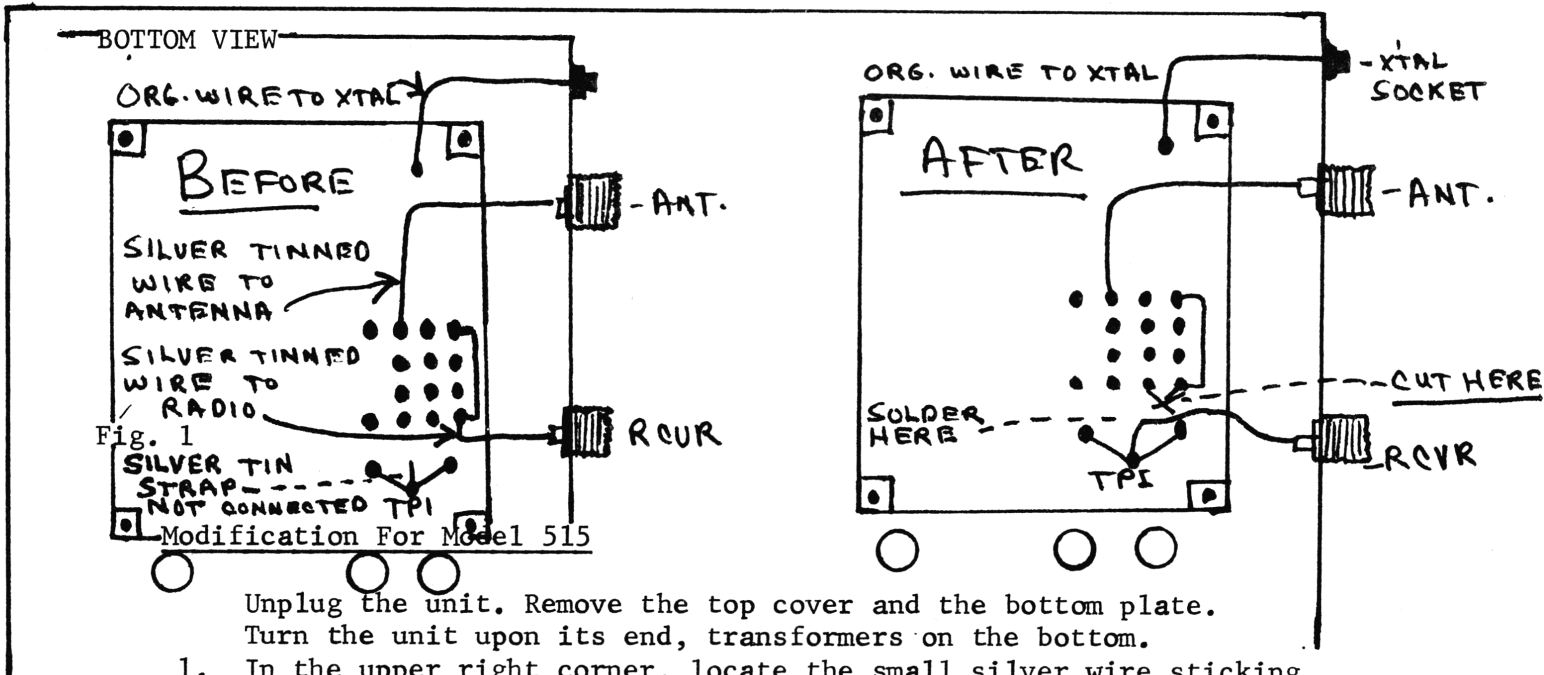

Fig. 1
1. In the upper right corner, locate the small silver wire sticking up out of the board with nothing soldered to it. Cut the silver wire that goes from the receiver connector, indicated by an "X" (Fig. 1) and solder it to the silver wire sticking up out of the board.